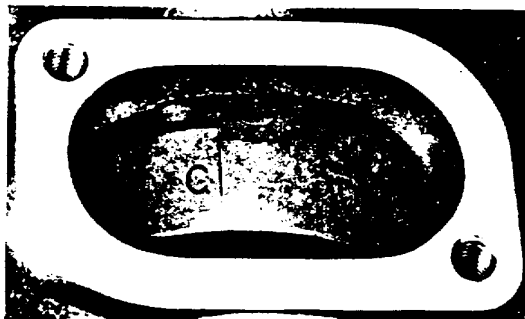

Fig. N.12.
7. With No. 1 piston at the static timing point In its compression stroke, the scribed line on the fuel pump rotor marked "C" should align with the squared end of the circlip (Refer to Fig. N.12).